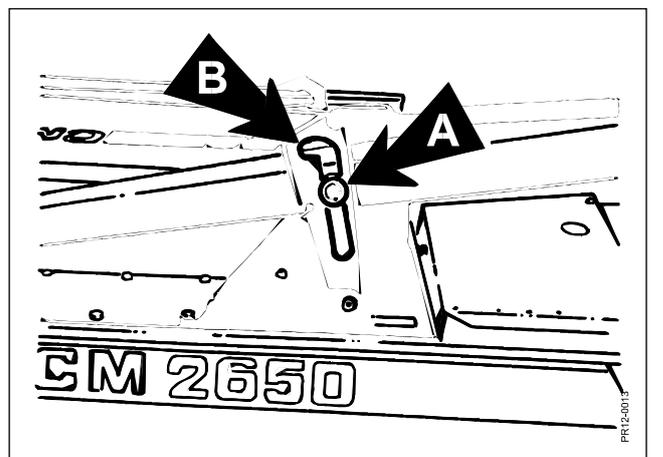

Fig. 3-7
- Fig. 3-7:** Correct function is obtained by adjusting the eye bolt so that position **A** (free) is obtained in working position and position **B** (blocked) is obtained in transport position.